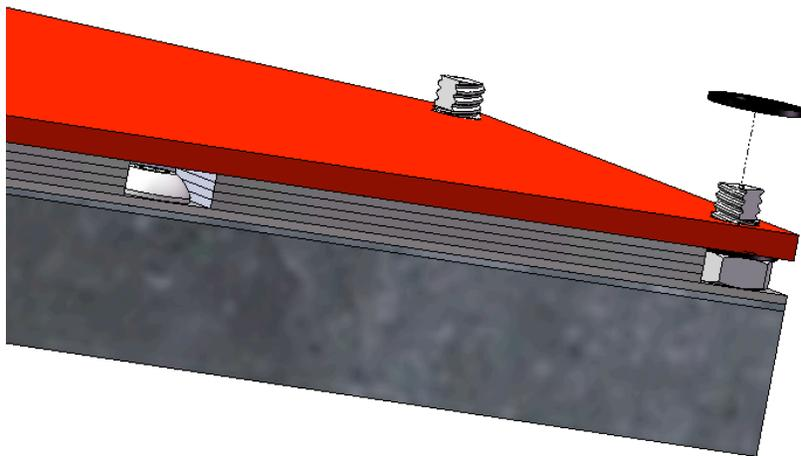

Figure 3-18: $\frac{1}{4}$ " ID rubber washer placed on threaded link.
- 16) Place five more $\frac{1}{4}$ " ID rubber washers on the threaded links. See Figure 3-18.